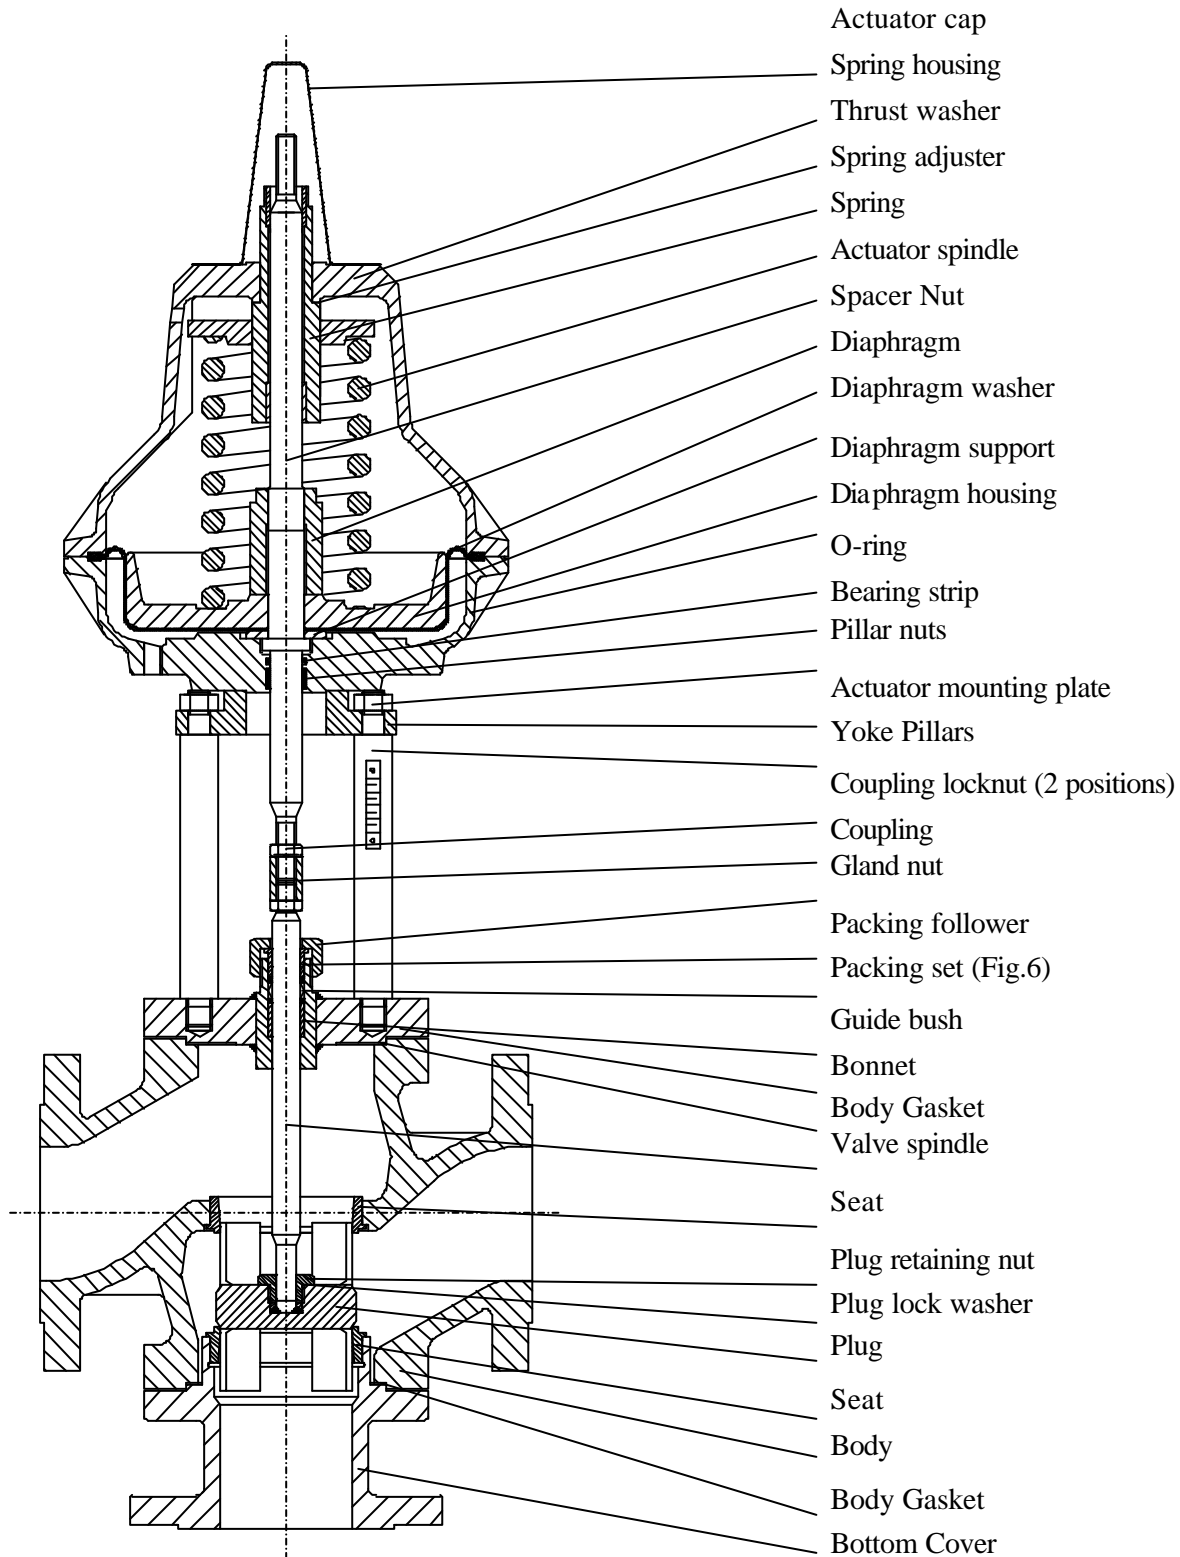

Fig. 5 - Packing Set Arrangement
18.0 Gland Seal Replacement (Refer to Figs 5 & 6)
18.11 Tighten gland nut down to the setting dimension shown in Fig. 5.